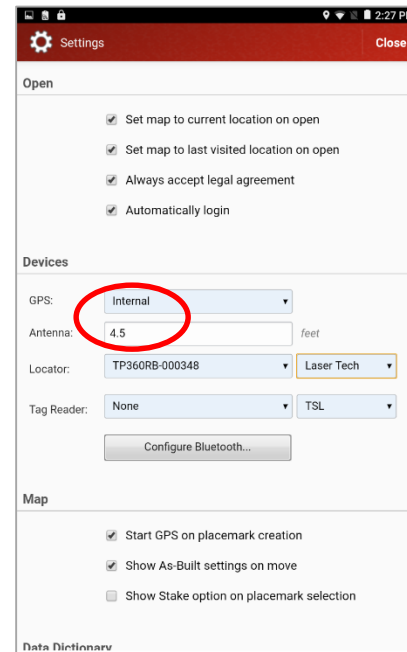

Figure 7
7. Make sure your **GPS** type is correct and an **Antenna** height is entered (Figure 7)